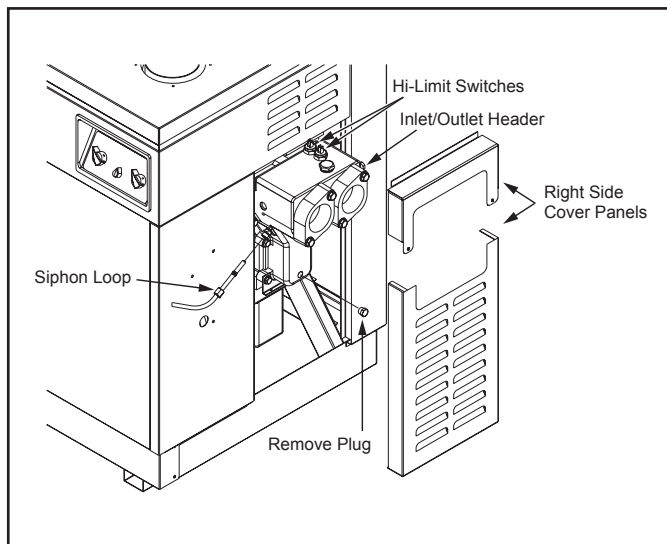

Figure 1. Drain System
3. Remove the two right side cover panels (inlet/outlet header side) (see Fig. 1).
4. Remove the drain plug and let the system drain (see Fig. 1).
9. Using a 7/16" wrench, loosen the compression nut located where the siphon loop enters the inlet/outlet header. Carefully pull the tubing out of the header (approximately 2-1/2") (see Fig. 1)